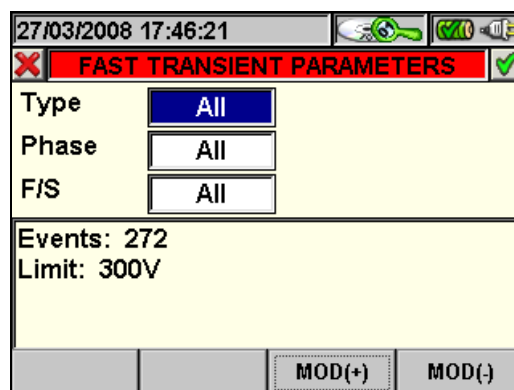

Fig. 105: Fast transients parameters
- The **F2** key (or the **PARAM** item on the display) accesses the page showing the settings for transients (Fig. 105).